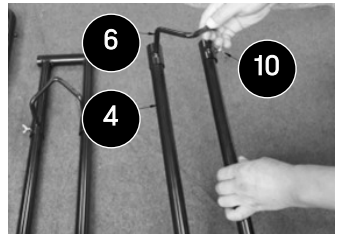

Fig. 2
2. Attach the adjustable racks (#6) to the top bike holders (#4) using wing-nut screws (#10). Refer to Fig. 2. Set aside.